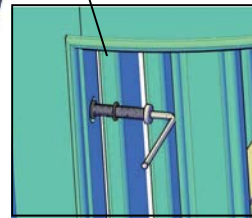

FIG.4
- Slide a lock washer and then a flat washer over BOLT B (see FIG. 4).
- After all four bolts have been set, securely tighten each bolt with the provided Allen key as shown in (FIG. 4).